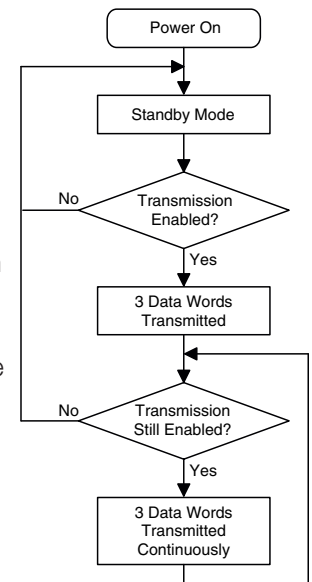

Figure 16: Encoder Flowchart
The KH3 Series transmitter internally utilizes the DS Series encoder. The encoder begins a three-word transmission cycle when the Transmission Enable line (TE) is pulled high. This cycle repeats itself for as long as the TE line is held high. Once TE falls low, the encoder completes its final cycle and then stops as shown in the Encoder / Decoder Timing diagram (Figure 16). When a transmission enable signal is applied, the encoder scans and transmits the status of the 10 bits of the address code and the 8 bits of the data serially in the order A0 to A9, D0 to D7.